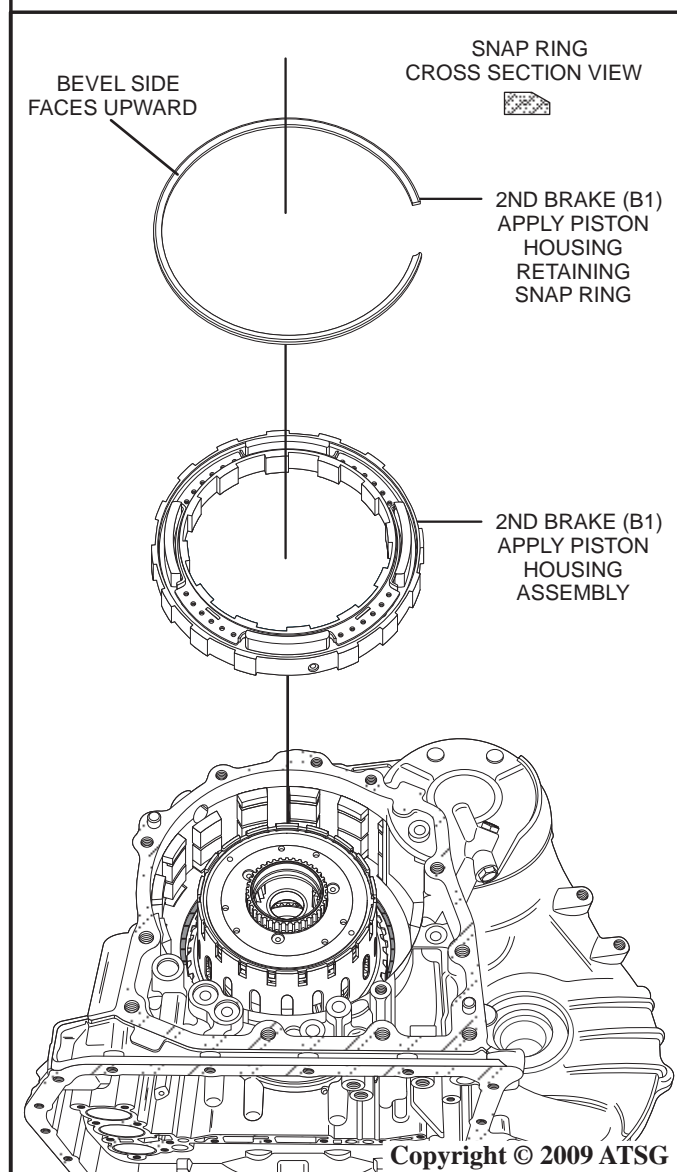

Figure 160
29. Install the 2nd brake (B1) piston housing assembly into the transmission aligning the lugs into the case with the feed hole toward the valve body area of the case as shown in Figure 160.
30. Install the 2nd brake (B1) piston housing retaining snap ring with the bevel side facing upward as shown in Figure 160.